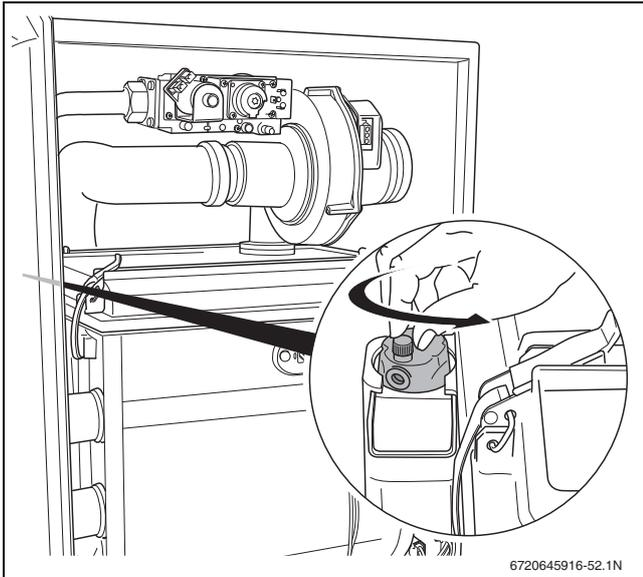

Fig. 56 Opening the automatic air vent
- ▶ Loosen the cap of the automatic air vent (→ fig. 56) by turning $\frac{1}{4}$ rotation counterclockwise.